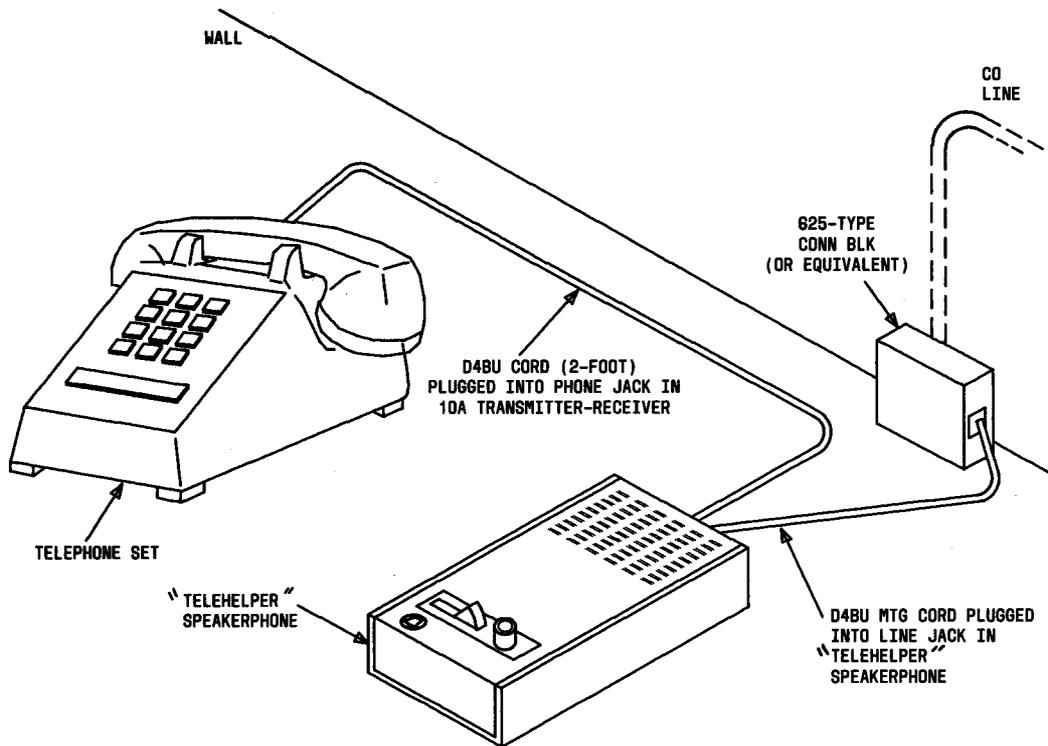

Fig. 6—Recommended Installation for Single Line Modular Desk Type Telephone Set
A. Standard Installation of Single Line Desk Telephone (Fig. 6)
3.05 Plug the (2 foot) D4BU-29 mounting cord into speakerphone jack marked PHONE. Run cord through cord slot and plug other end of cord into associated telephone set (Fig. 6).